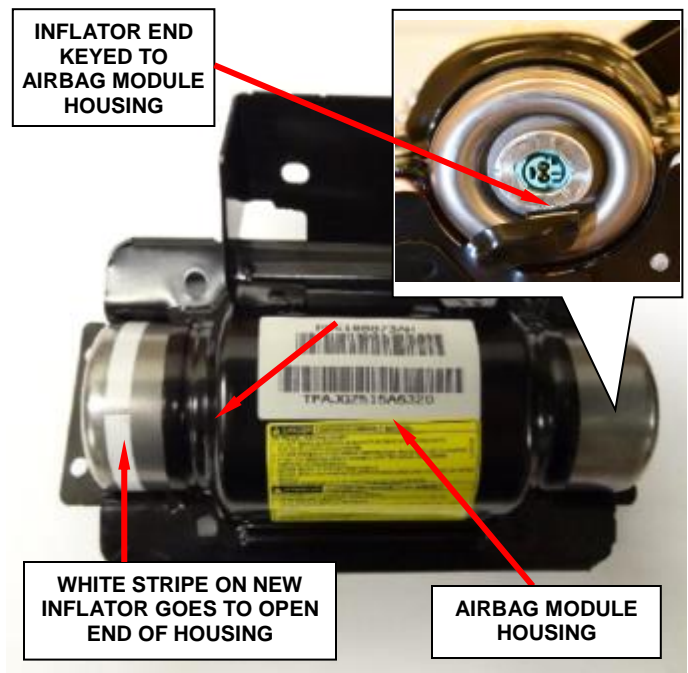

Figure 67 – Install New Inflator to Housing
- e. Slide the **NEW** inflator into the passenger airbag module housing. The keyed end is inserted first; therefore the white stripe on the **NEW** inflator will be located at the open end (Figure 67).